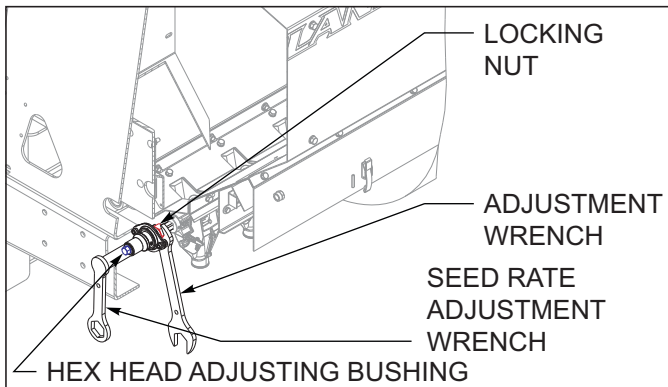
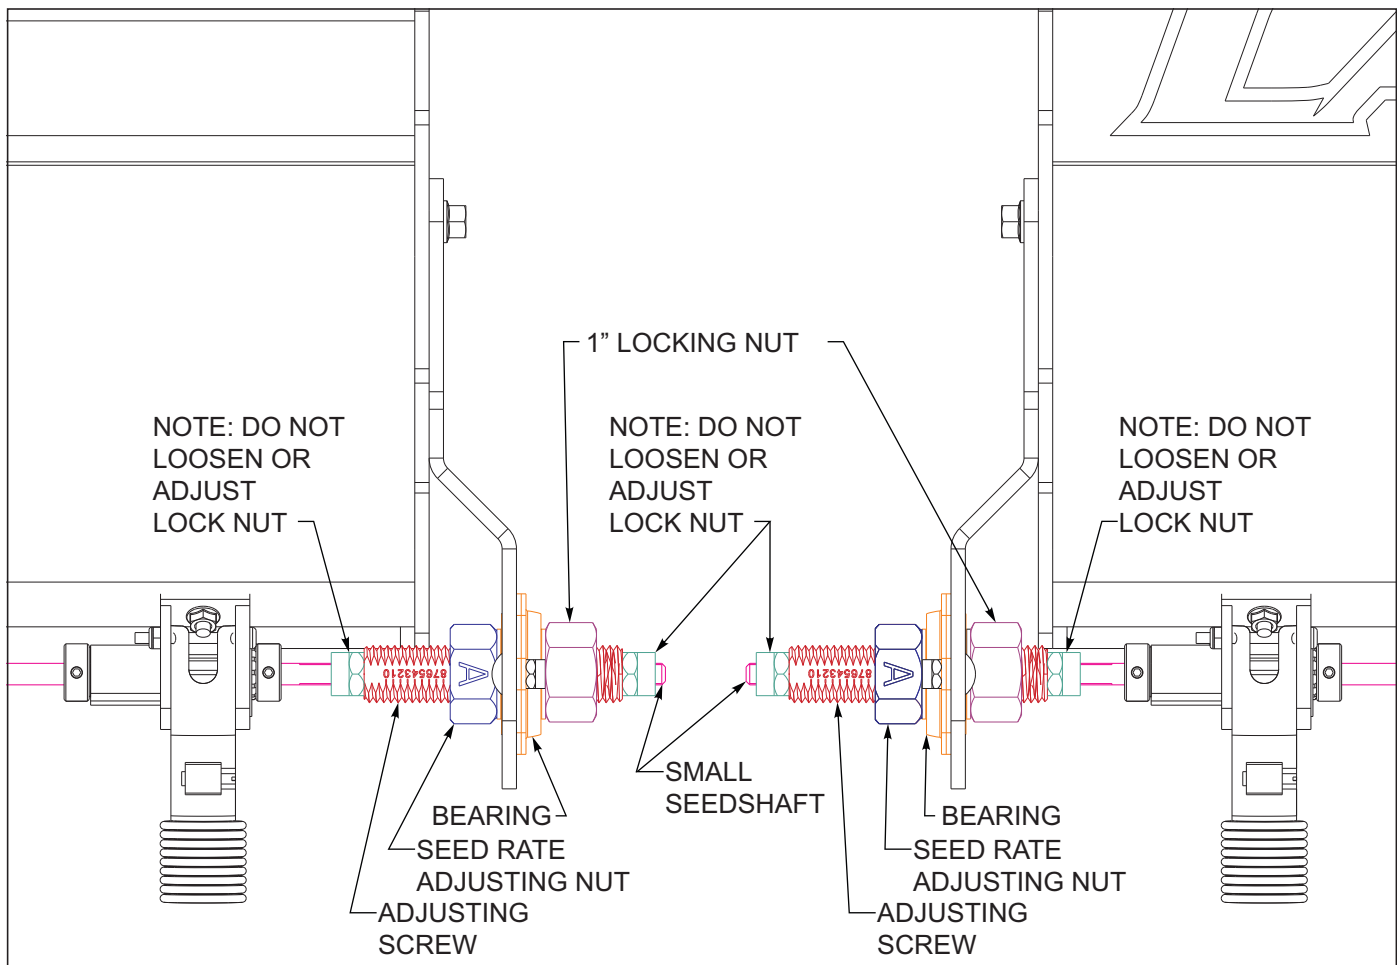

Figure 4-25: Wrench Adjustment Position
Figure 4-26: Small Seed Rate Adjustment
- b. Rotate the small seed shaft until the letters and numbers on the adjustment are clearly visible **See Figure 4-26**.
- d. Loosen the 1" locking nut with the seed rate adjusting wrench *See Figure 4-25* and *See Figure 4-26*.
- e. Turn the large seed rate adjusting nut with the adjustment wrench of the seed shaft bearing in or out to the desired setting *See Figure 4-25* and *See Figure 4-26*. The desired letter on the seed rate adjusting nut should be aligned with the number scale. The face of the nut should align to the desired number setting.